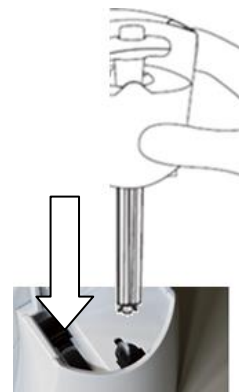

Figure 66: Replacing Isolation Chamber
- 1) To replace, align Isolation Chamber fingers with opening in the top of the unit (refer to Figure 66).